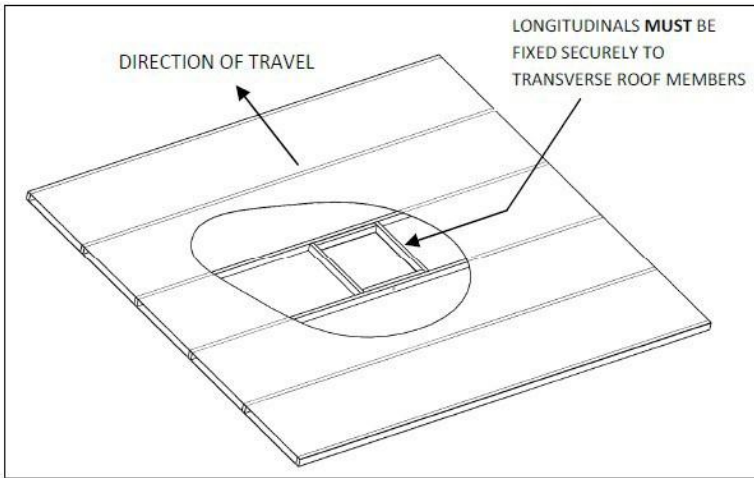

Fig 3: Shows an ideal roof structure with strong longitudinals and a 14' hole boxed
- The square hole in the roof (14" x 14") **MUST** be boxed up with minimum 3/4 inch square timber to provide a structure strong enough to withstand the compression of the installation bolts. This is also to ensure that air is not drawn from the roof cavity (Fig 3 & 4). Remember to leave access for wiring.
- Longitudinals **MUST** be fixed securely to the transverse roof members to transfer load (see Fig 3).
- Press the cable sheath into the integral strain relief slot as shown in Figure 2. Wires must not extend beyond the stops as shown in Figure 3!
- While holding the strain relief cover, position the housing's hinge posts into the hinge slots and press down until both lock into place as shown in **Figure 3**.